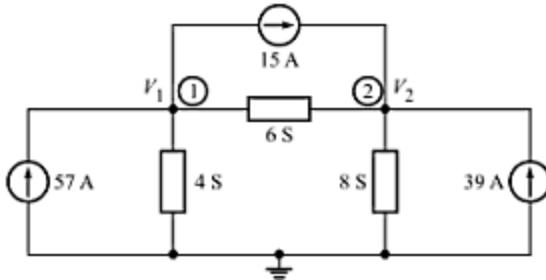

Fig. A-67
- A-25. Find the node voltages in the circuit shown in Fig. A-67. [Ans.  $V_1 = 8.77\text{ V}$ ,  $V_2 = 7.62\text{ V}$ ]